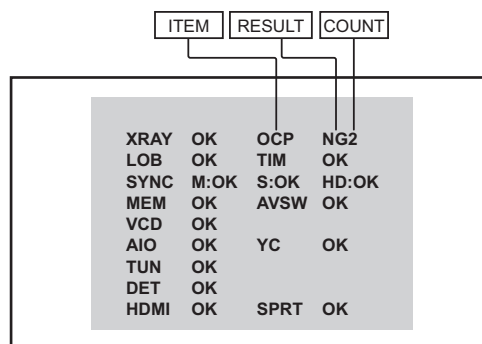

Fig.3
- (4) Press [4] key then < SELF-CHECK > screen is appear. (Fig.3)